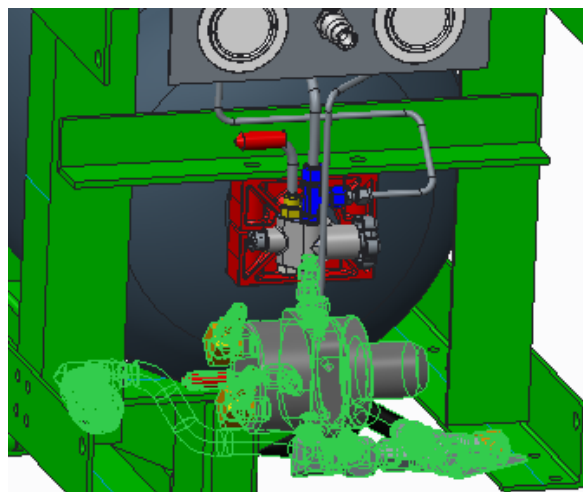

Figure 3. Remove the old regulator and related parts. Clean and save the fittings and fasteners for re-use.
3. Next, remove the regulator, low pressure hose and **regulator** PRD vent as shown in Figure 3. Clean and save all parts and fasteners for re-use.